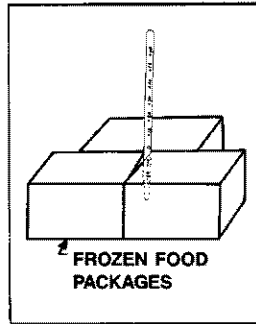

FIGURE 47
**FREEZER:** Place the thermometer in the center of the freezer, surrounded by frozen packages. See Figure 47. Wait 5 to 8 hours, then check the reading. If temperature is not within 0° to +2°F, adjust control as needed, one number at a time and check the temperature again after 4 to 6 hours.